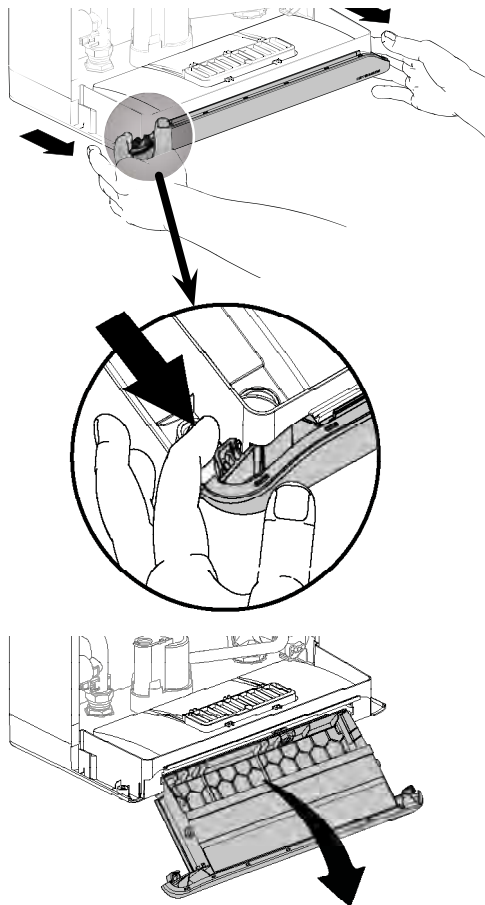

Figure 44: Pulling out the tray
1. Pull out the controller as shown in Figure 44.